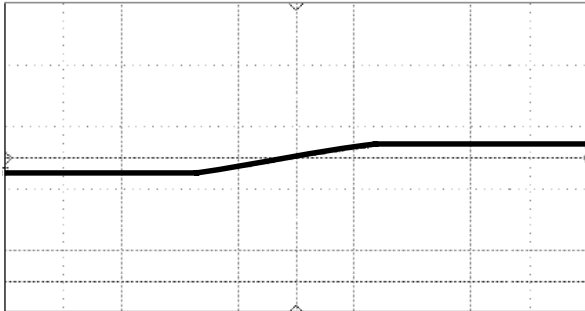

Figure 1-2. No Saturation Warning
- **No Saturation.** A warning is displayed if a polynomial is generated that does not have a maximum where the transfer characteristics can be clipped (when the amplifier cannot reach saturation). Refer to Figure 1-2.